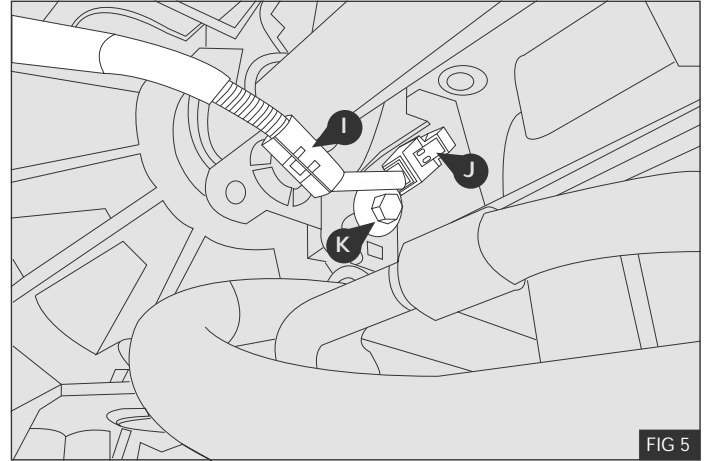

FIG 5
7. Remove loom from clip **I** at the rear of the engine - Fig 5.
8. Undo wiring plug **J** - Fig 5
9. Remove bolt **K** securing PAS pipe support bracket - Fig 5.